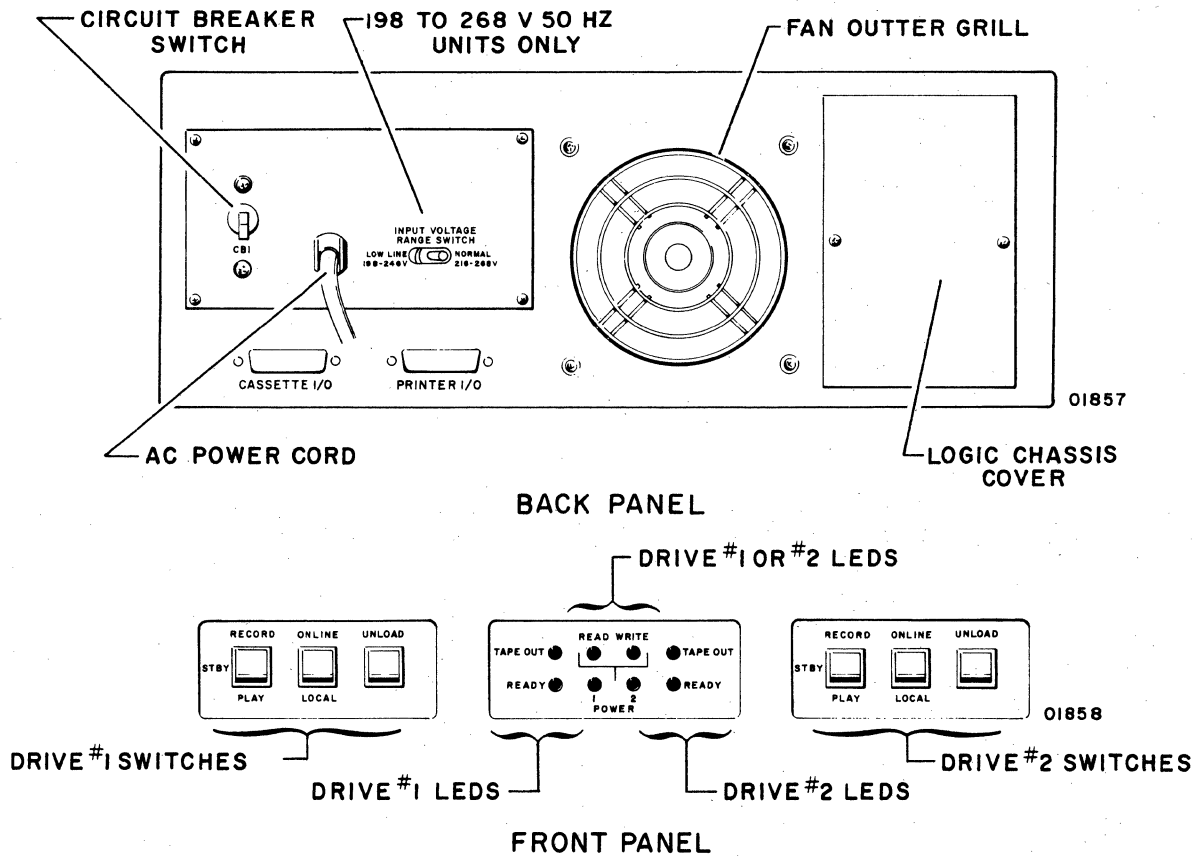

Figure TCU1. Back and Front Panels
- 2) Verify tape unit ac power cord (figure TCU1) connected to proper power from site outlet (see specifications, section 1 for power requirements). For 50-Hz units only: verify INPUT VOLTAGE RANGE SWITCH set at LOW LINE or NORMAL to match range of site power.
- 3) Toggle circuit breaker switch (CB1) up (fan should start and green POWER LED(s) (figure TCU1) should be lit for each drive unit present).
- 2) Select desired tape cassette and verify that write enable tab or plug (see Cassette Tape Materials) is present for each side on which writing will be desired (figure TCU1).
- 1) Remove the two screws (and washers) which hold cover over rear of logic chassis (figure TCU1) and lay cover aside.
- 5) Remove the four mounting screws which hold fan assembly (and outer wire grill) to inside back of cabinet (figure TCU1), grasp freed fan assembly at top corners, and lift it out.